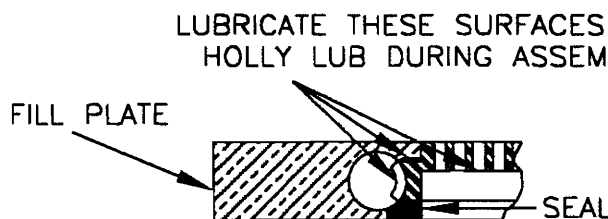

FIGURE 2
1. WITH THE PARTS CLEAN, PLACE THE FILL PLATE (ITEM 2, PAGE 64 PARTS EXPLODED VIEW) UPSIDE DOWN ON A FLAT SURFACE. COAT THE SURFACES MARKED IN FIGURE 2 WITH A THIN LAYER OF HOLLY LUB. THIS IS NECESSARY TO PROVIDE INITIAL LUBRICATION UNTIL MEAT MOVES TO THE FILL AREA.